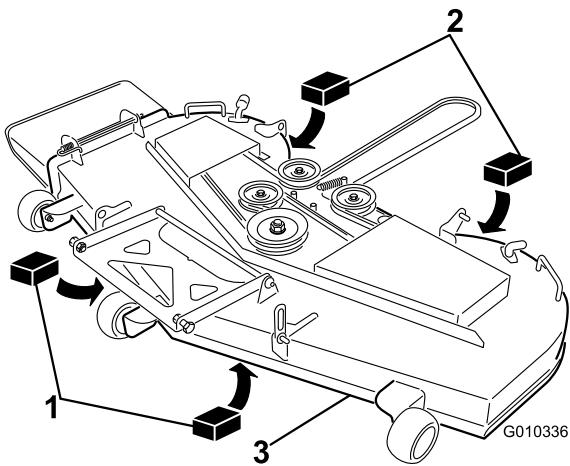

**Figure 63**
3. Carefully rotate the blades so they are facing front to rear (Figure 63).
4. Measure from the tip of the front blade to the flat surface and the tip of the rear blade to the flat surface (Figure 63). If the front blade tip is not 1/16-5/16 inch (1.6-7.9 mm) lower than the rear blade tip, continue to the Leveling the Mower Deck procedure.